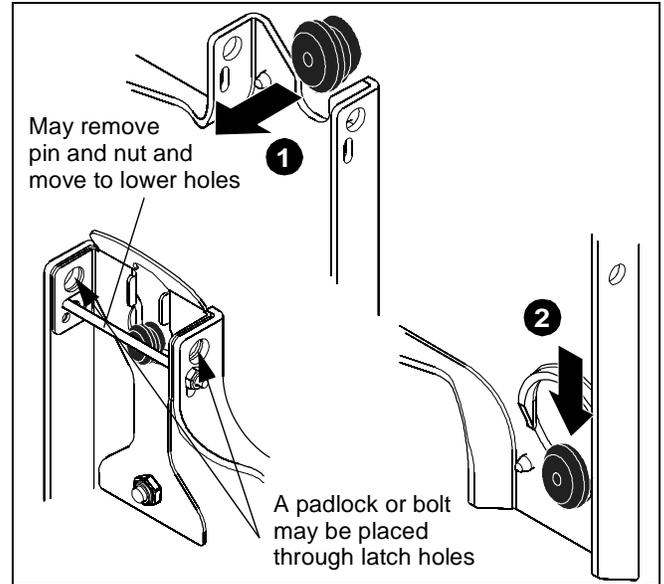

Figure 2
2. Lower each display into place listening for audible "click" to ensure recessed area of mounting buttons are properly seated in lower area of mounting holes. (See Figure 2)
NOTE: Holes are provided in the faceplate for use with a padlock or similar locking device, if desired. In addition, the pin and nut may be removed from the upper holes and moved to the lower holes for use as a more permanent locking device. (See Figure 2)